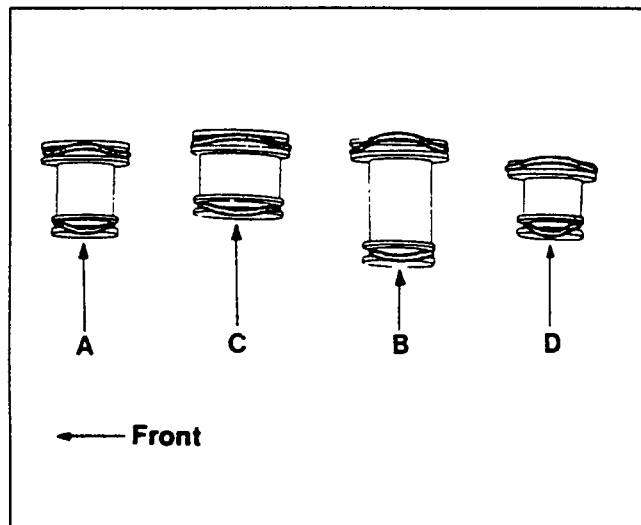

Figure 242. Accumulator Piston
Accumulator (Figures 242 and 243)
1. Apply automatic transmission fluid (ATF) to new O-rings, then install them to the accumulator pistons (figure 242).